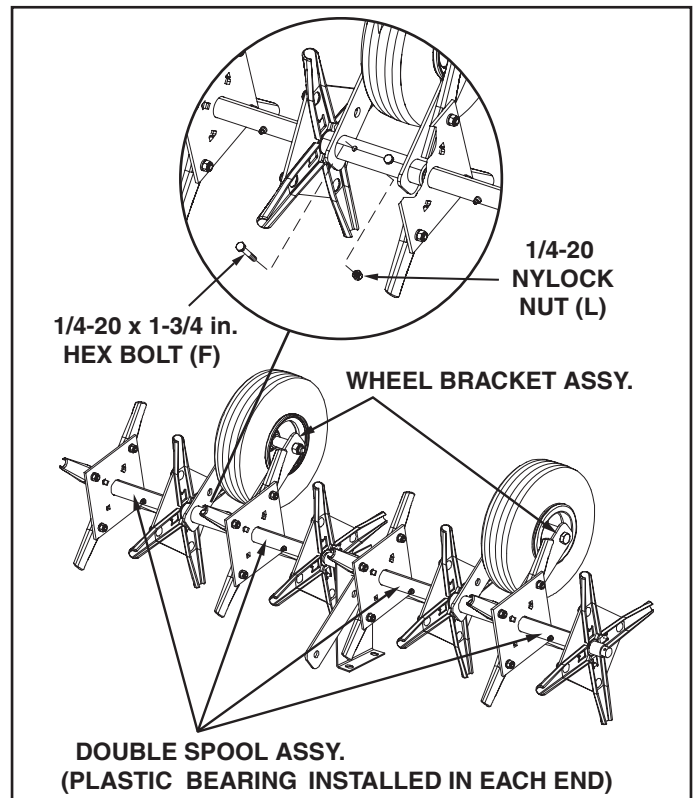

FIGURE 6
7. Slide two double spool assemblies onto the shaft (one on each side). See figure 6.
8. Slide both wheel bracket assemblies onto the shaft (one on each side) with the head of the wheel hex bolt facing outward. Fasten the wheel bracket assemblies to the shaft (in the opposite direction as the lift handle) using four 1/4-20 x 1-3/4 in. hex bolts and four 1/4-20 nylock hex nuts. See figure 6.